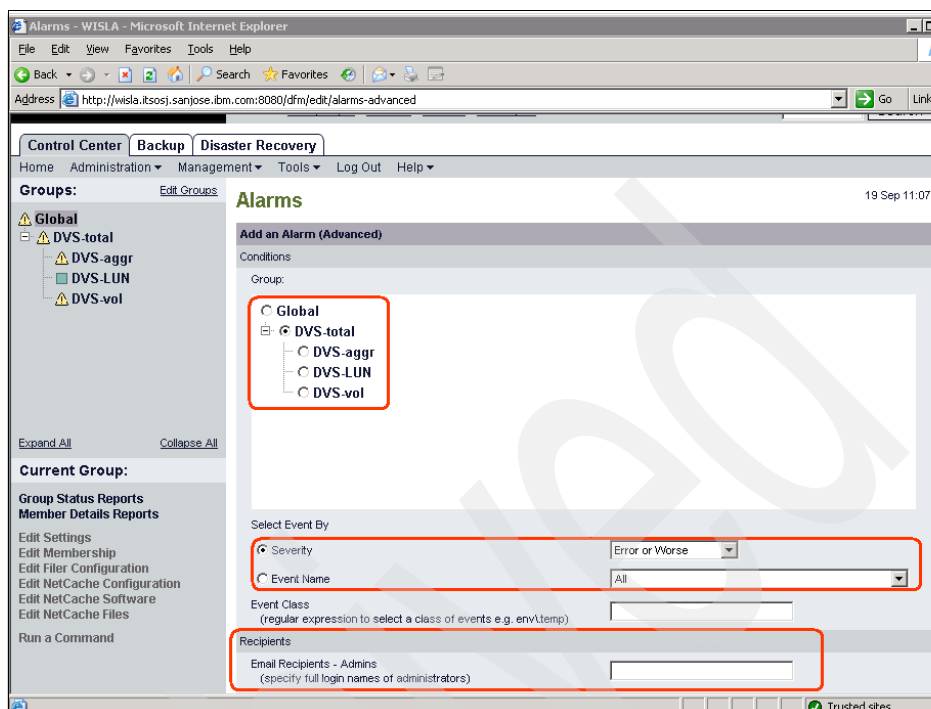

Figure 10-15 Configure alarms in DFM
1. Select **Control Center** → **Administration** → **Alarms** as Figure 10-15 on page 370. The Alarms page is displayed, as shown in Figure 10-15 on page 370.